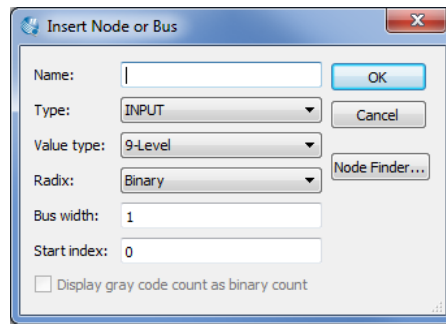
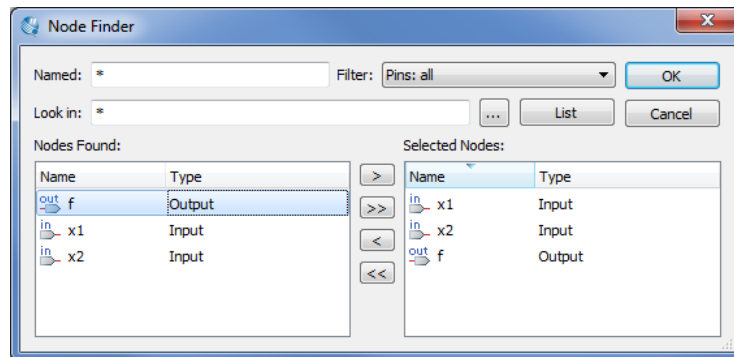
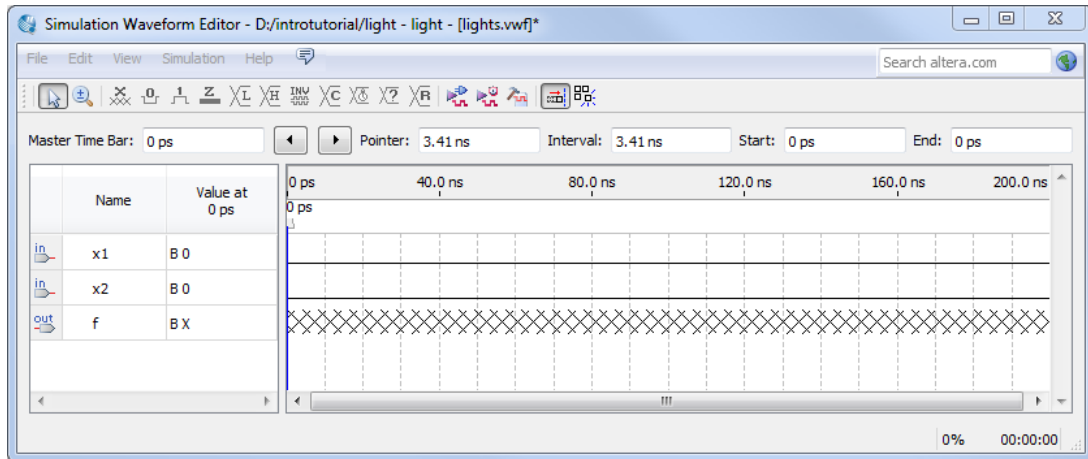

Figure 30. The Insert Node or Bus dialogue.
Figure 31. Selecting nodes to insert into the Waveform Editor.
Figure 32. The nodes needed for simulation.
- Next, we want to include the input and output nodes of the circuit to be simulated. Click **Edit > Insert > Insert Node or Bus** to open the window in Figure 30. It is possible to type the name of a signal (pin) into the Name box, or use the Node Finder to search your project for the signals. Click on the button labeled **Node Finder** to open the window in Figure 31. The Node Finder utility has a filter used to indicate what type of nodes are to be found. Since we are interested in input and output pins, set the filter to **Pins: all**. Click the **List** button to find the input and output nodes as indicated on the left side of the figure.
Click on the *x1* signal in the Nodes Found box in Figure 31, and then click the > sign to add it to the Selected Nodes box on the right side of the figure. Do the same for *x2* and *f*. Click OK to close the Node Finder window, and then click OK in the window of Figure 30. This leaves a fully displayed Waveform Editor window, as shown in Figure 32. If you did not select the nodes in the same order as displayed in Figure 32, it is possible to rearrange them. To move a waveform up or down in the Waveform Editor window, click within the node's row (i.e. on its name, icon, or value) and drag it up or down in the Waveform Editor.